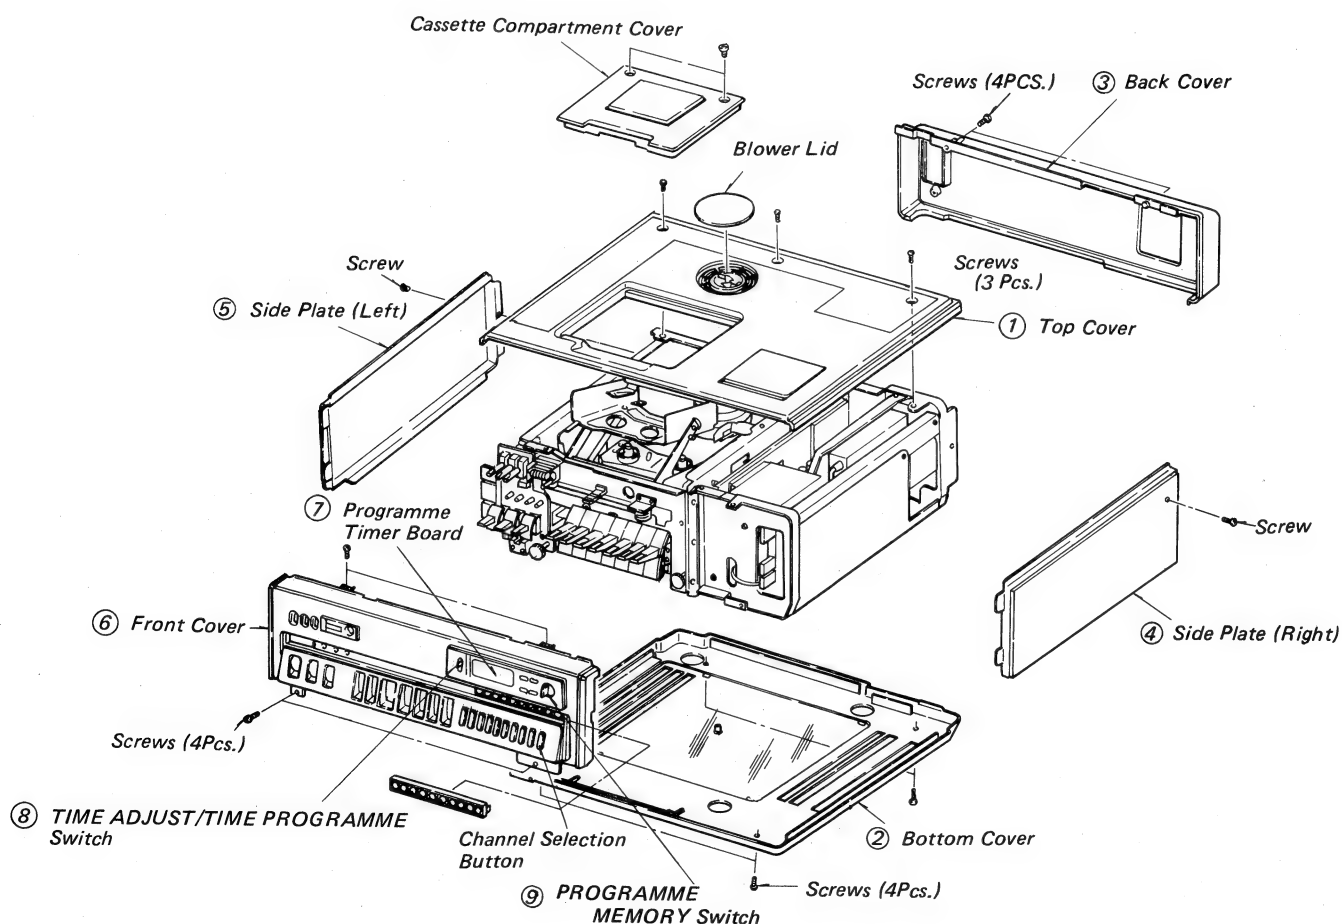

Fig. 5-11 Cabinet Removal and Assembly
5-1-2 How To Remove the Cabinet (see Fig. 5-11, 5-12)
- (1) Remove the four screws holding the front cover ⑥.
- (2) Take the front cover out for removal.
- (3) Unplug the 5-pin connector P862 from the Programme Timer board PW-2112.
- (4) Also, unplug the 11-pin connector P861 from the Programme Timer board PW-2112.
- (5) Unplug the 12-pin connector of the key board from the Interface board PW-2118.
6. Removing the Programme Timer board (as shown in Fig. 5-11, 5-12)